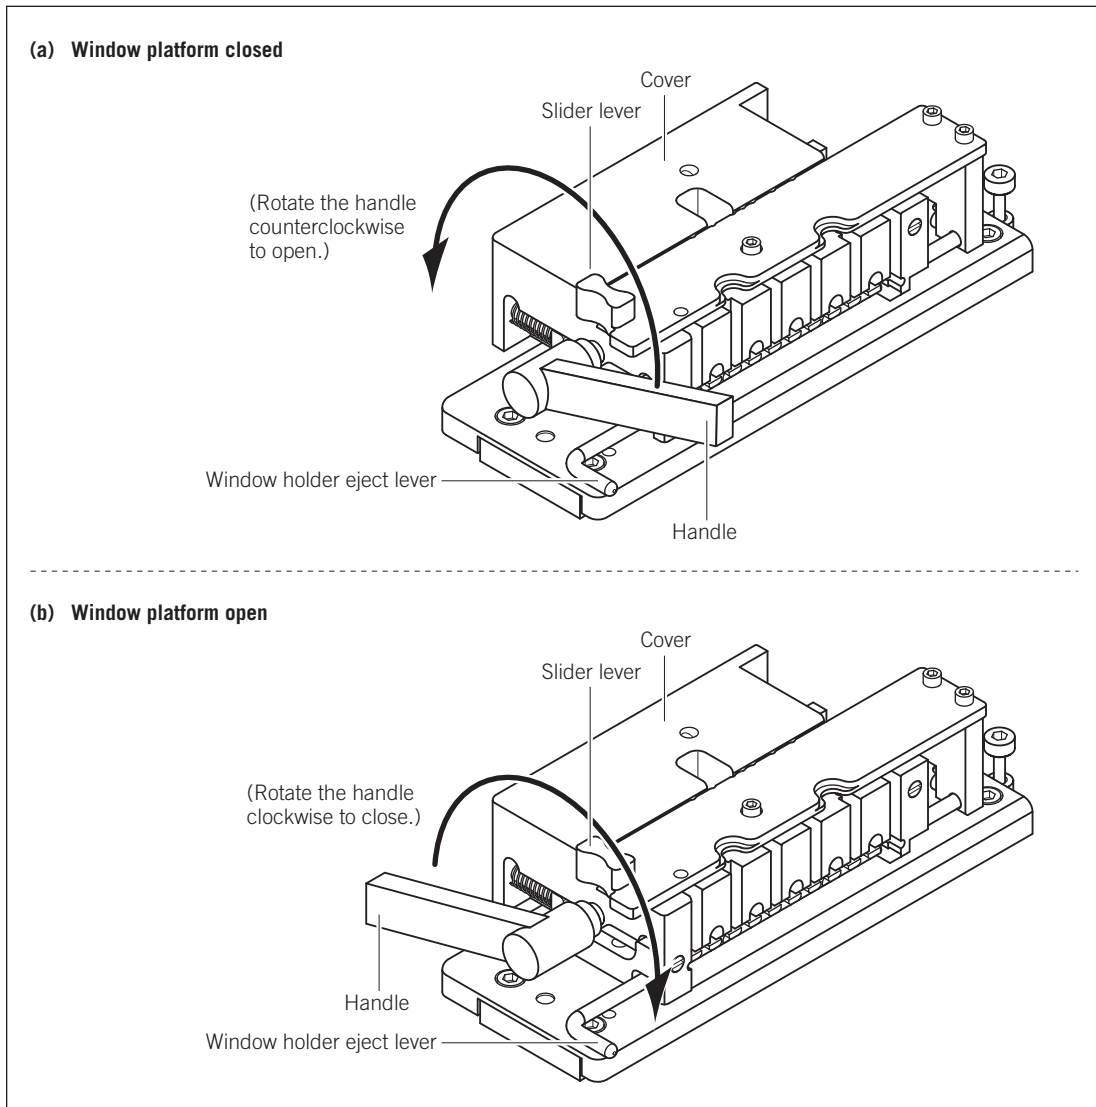

Figure 7-7. The window platform: (a) closed position and (b) open position.
4. Rotate the handle at the front of the window platform counterclockwise to the open position (figure 7-7). The window platform moves to the left, away from the scanning face.
7. Holding the plastic window holder in your left hand and the handle of the anode plug in your right hand, gently lower the window holder into the slot, making sure that the rounded portion of the window holder fits into the round slot (figure 7-7).